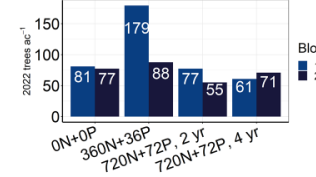

Figure 9: 360N plots: Thinning differs
- High variability between 2 360N plots is explained by different thinning (Figure 9)